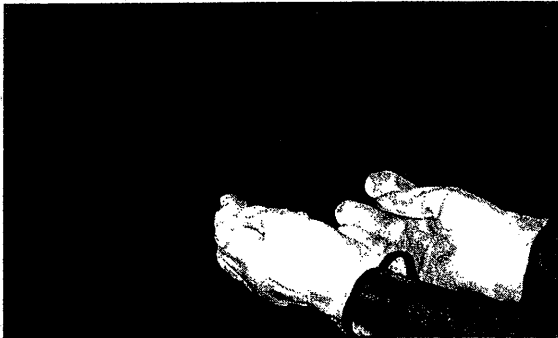

Figure 17a
1. Remove the knockout plate from the backshield of the DV450 by prying out on the plate and clip or break the tabs that hold it in place. See Figure 17a.